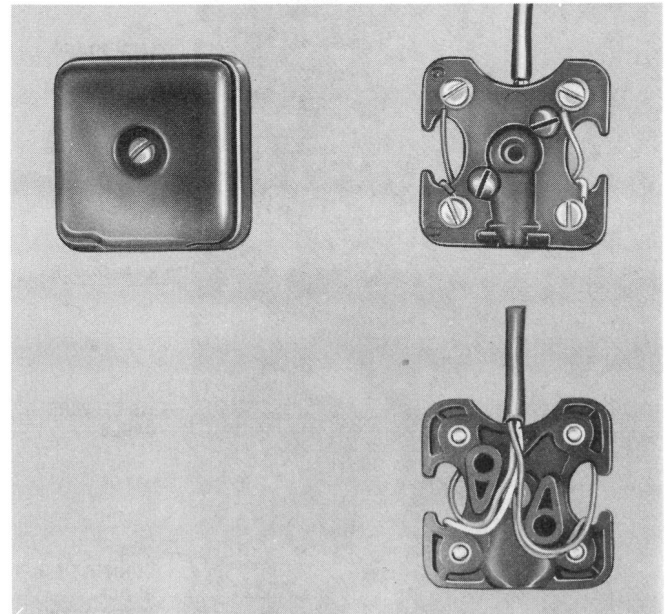

Fig. 1—42A Connecting Block
2.01 Identification and ordering information for connecting blocks is covered in this section in Fig. 1 through 4 and Tables A and B.
A. 42A Connecting Block (Fig. 1)
- (1) Strip jacket back approximately 4 inches from end and separate conductors.
- (2) Place block over conductors and secure with two fasteners.
- (3) Dress conductors and make connections as shown in Table C and Fig. 1.